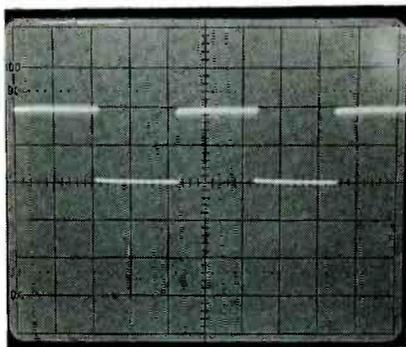

Fig. 2. When you press S1, the AF oscillator in the Transmitter generates an audio signal; here's the waveform.
When you press S1, the AF oscillator composed of U1-a, U1-b, R4, and C1 starts generating an audio signal (see Fig. 2). That signal gates the RF os-
**Construction.** The simplest way to build your own Vocal Sound-Effects Generator is to use a printed-circuit board. A template for that is shown in Fig. 2. If you don't want to fabricate your own board, a pre-etched and drilled board can be purchased from the source mentioned in the Parts List (you can also purchase other parts, and even a complete kit, from the same source). Of course, the circuit can also be built on perforated board. Most of the parts for the project are fairly easy to find. The one exception is the HT8950 (U1); if you can't find it locally, it can be purchased from the source given in the Parts List or from Alltronics (2300-D Zanker Road, San Jose, CA 95131; Tel. 408-943-9773).